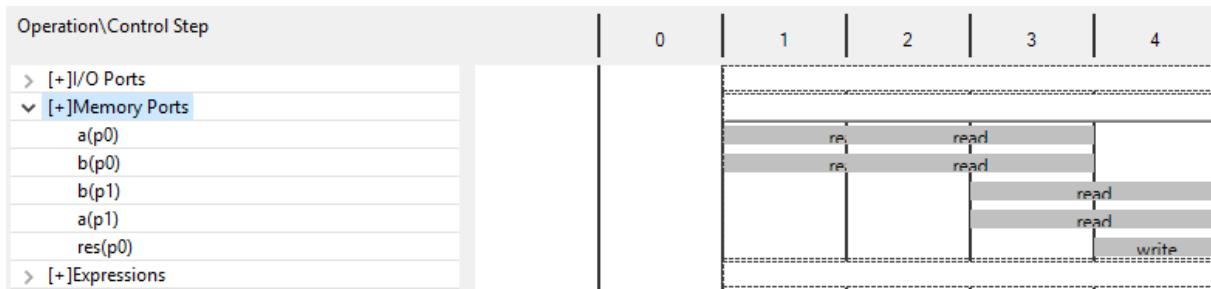

Figure 7-11: Matrixmul Pipeline Col Resource View
10. Expand the **Memory Ports** to see the view shown in Figure 7-11.
In Figure 7-11 the 2-cycle read operations in state C1 overlap with those starting in state C2 and so only a single cycle is visible; however, it is clear that this resource is used in multiple states.